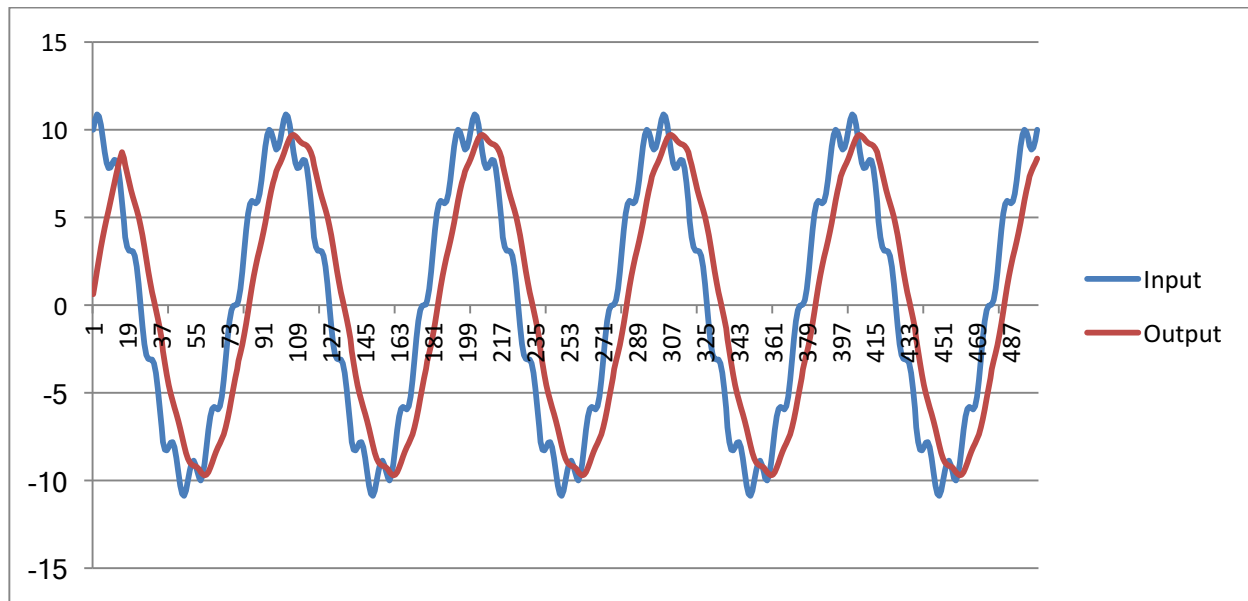

Figure 1 Moving Average Filter Response
The effect of the filter is shown in Figure 1. In this LAB assignment you are required to build the moving average filter that will generate the same results as shown in Figure
The 11 bit format is shown in Figure 1. Each 11 bits input should follow this format.
- Using any plotting tool, plot the input and output and verify it is performing as shown in *Figure 1*.
- b. Input and output files and their plot for the final design as shown in Figure 1.